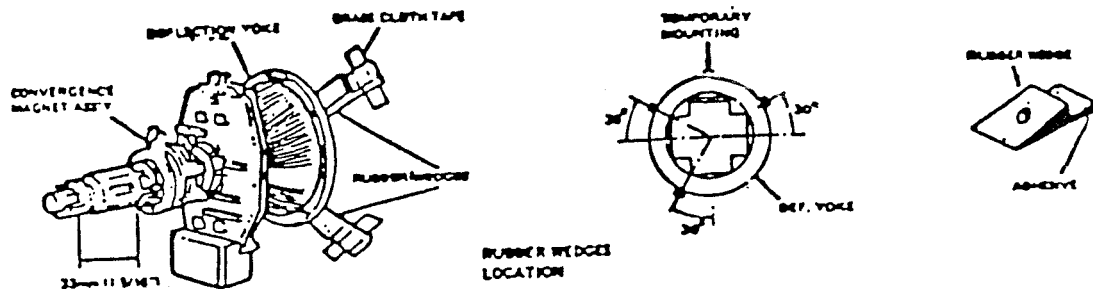

FIG. 11
Convergence Magnet Assembly and Rubber Wedges need mechanical positioning as shown in Fig 11.
- 9) Stick 3 glass cloth tapes on wedges as shown in Fig 11.